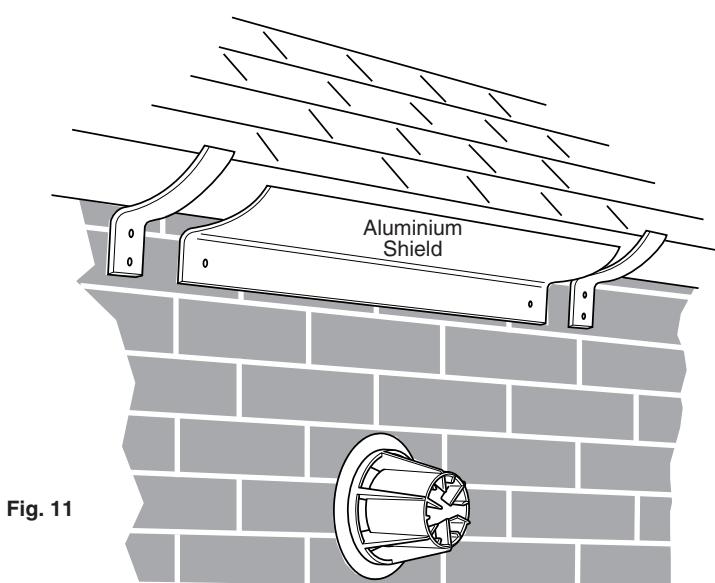

Fig. 11
3. If the terminal is fitted within 1 metre (39in) of a plastic gutter, within 500mm (19¹/₂ in) of a painted eave or a painted gutter, an aluminium shield of at least 1 metre (39in) long should be fitted to the underside of the gutter or painted surface. An air space of 5mm (³/₁₆ in) should be left between shield and gutter (Fig. 11).